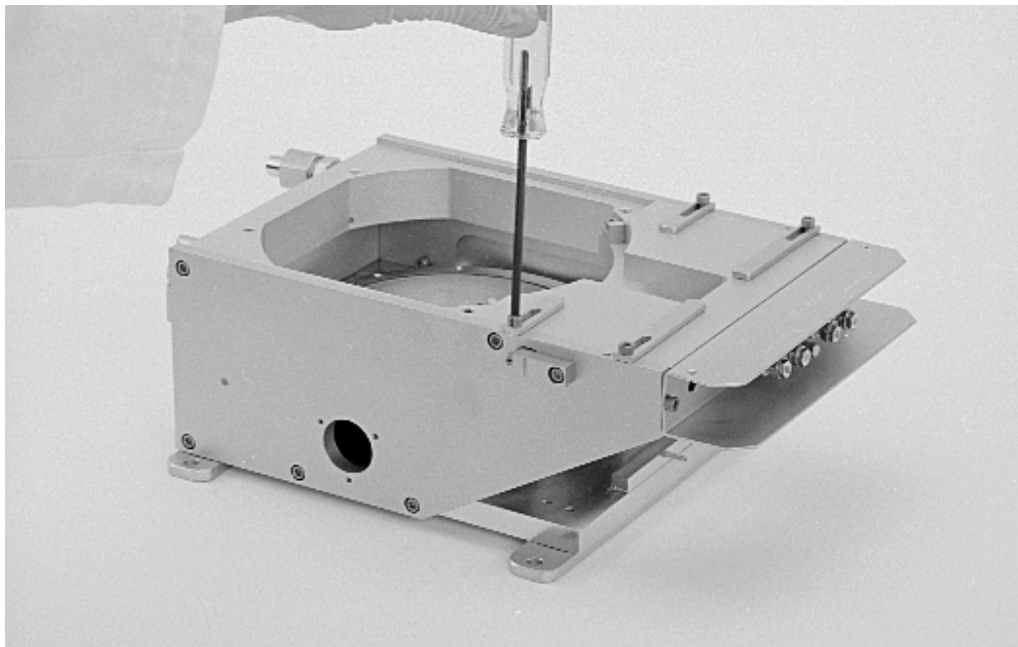

Figure 6-10. Removing the external pole extensions
Step 9: Remove the external pole extensions after making note of their positions. To do so, remove the 8-32 3/8" screws that secure them to the right- and left-hand pole pieces, as shown in Figure 6-10.